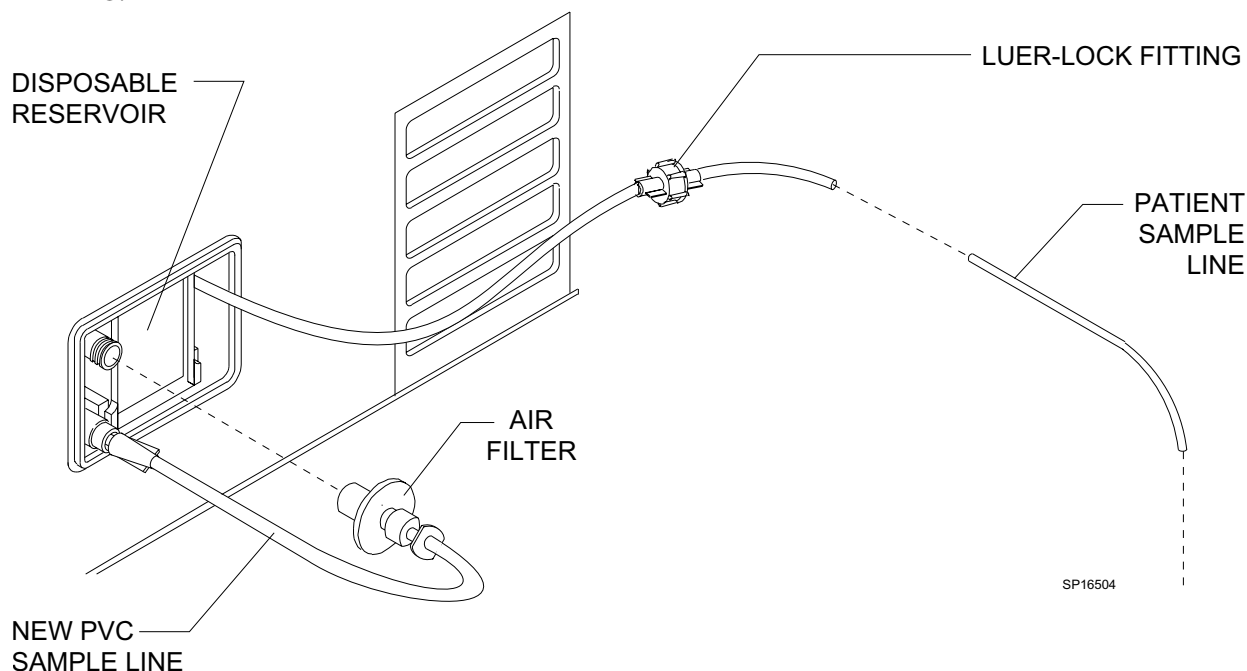

Figure 4: INSTALLATION OF AIR FILTER AND NEW PVC SAMPLE LINE
25. Install the air filter and the new PVC sample line (P/N 4113334) as shown in Figure 4. Do not use the original PVC sample line.